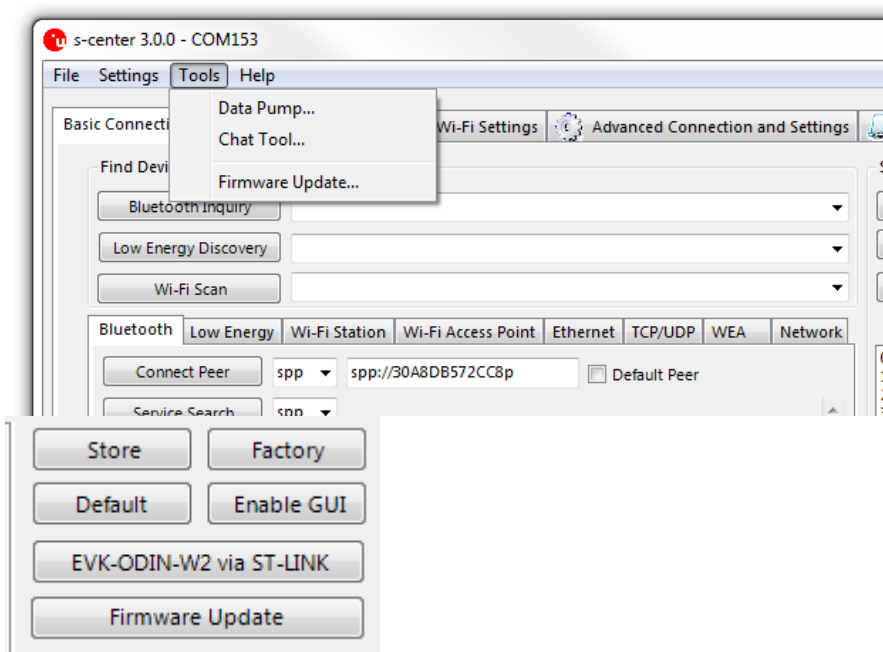

Figure 5: Screenshot that depicts Software Update options in the s-center
- Click **Firmware Update** button on the bottom right as shown in Figure 5 or